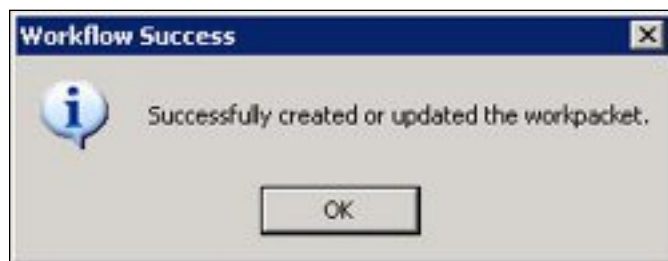

Figure 7-66: Workflow Success Message
- c. The Workflow Success message is displayed (Figure 7-66).